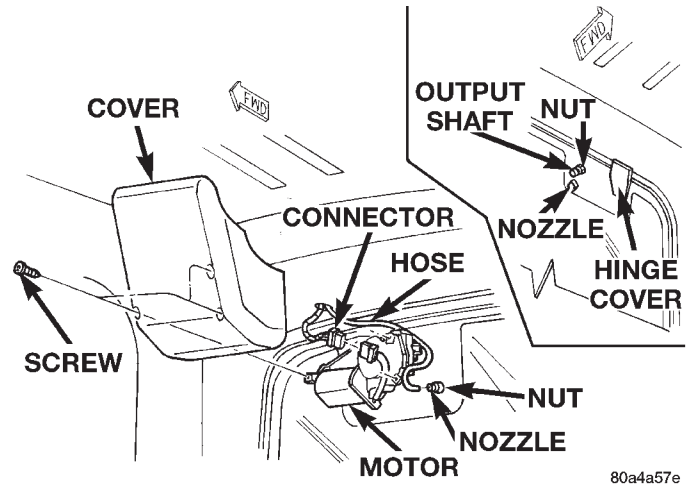

Fig. 19 Rear Washer Nozzle Remove/Install
- (1) Disconnect and isolate the battery negative cable.
- (2) From the inside of the liftglass, remove the three screws that secure the rear wiper motor cover to the motor (Fig. 19).
- (3) Remove the rear wiper motor cover.
- (4) Disconnect the washer supply hose from the barbed rear washer nozzle nipple.
- (5) While holding the nozzle securely from the outside of the liftglass, remove the plastic nut that